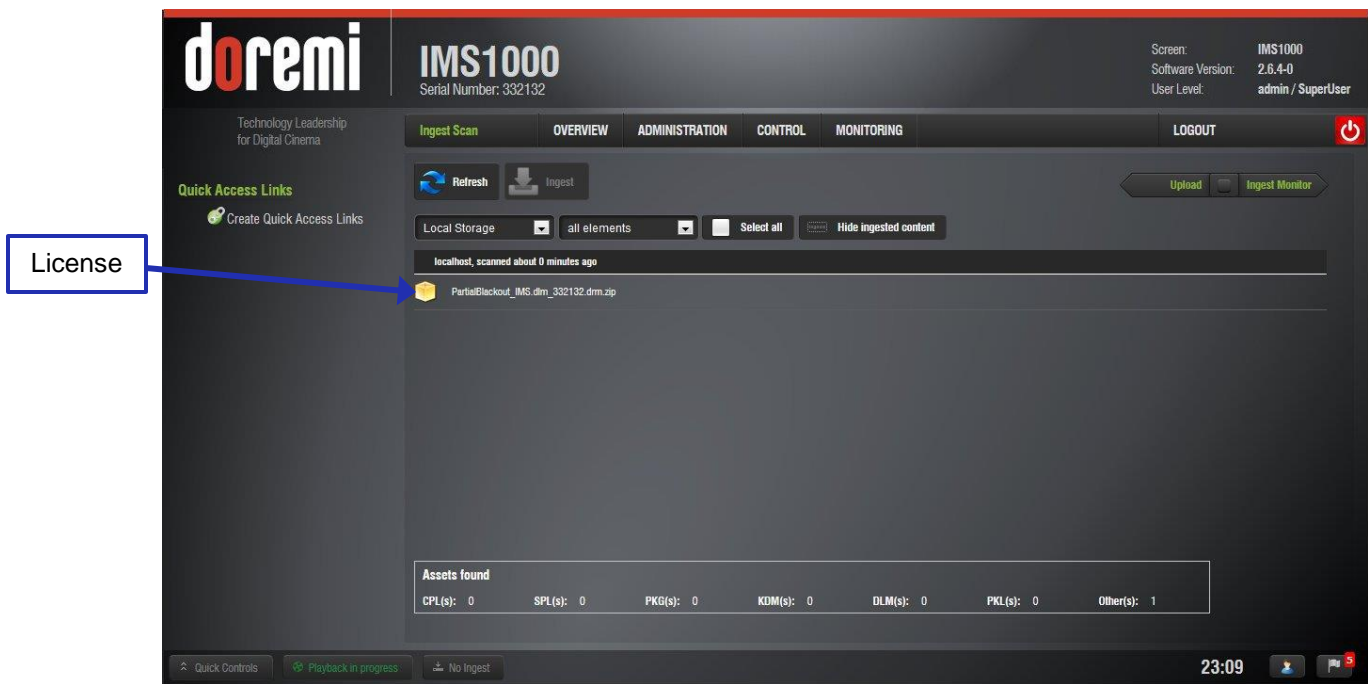

Figure 306: License Ingest
- Select the license file(s) to install and click the Ingest button (Figure 306).